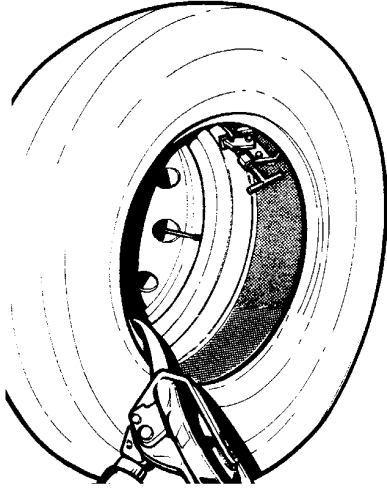

Fig.33
1. Hang the inner bead of the tire on the mounting clamp (Fig.33).